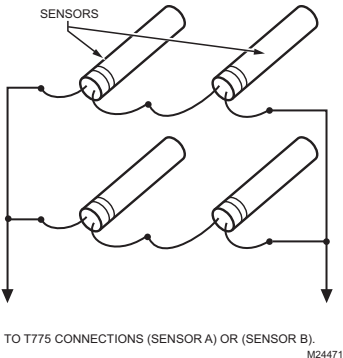

Fig. 3. Parallel-Series Wiring of Sensors.
**NOTE:** Multiple sensors may be parallel-series wired to sense average temperatures in large spaces. Refer to Fig. 3 on page 4.
Multiple sensors can be parallel-series wired to sense average temperatures in large spaces. To maintain control accuracy, the number of sensors to be parallel-series wired must be of the  $n^2$  power (for example, 4, 9, 16, etc.). Refer to Fig. 3